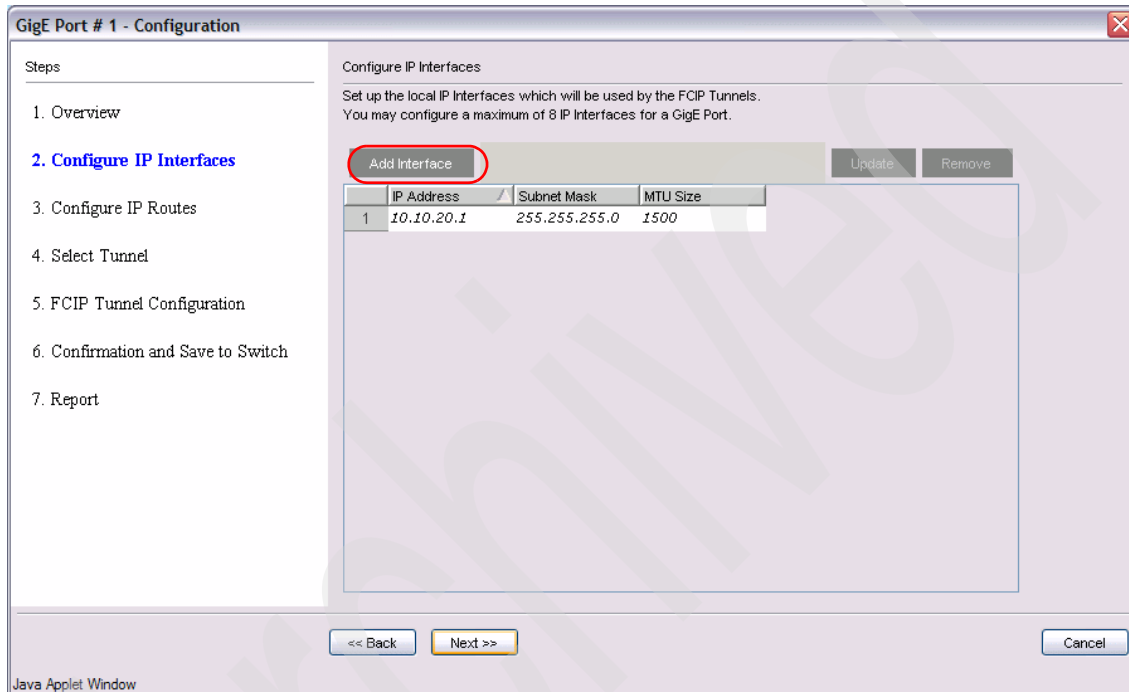

Figure 6-87 Configure IP Interfaces
3. We define an IP interface. Click **Add Interface** (highlighted in Figure 6-87), and then complete the three mandatory fields: IP Address, Subnet Mask, and MTU Size. We chose the following values: